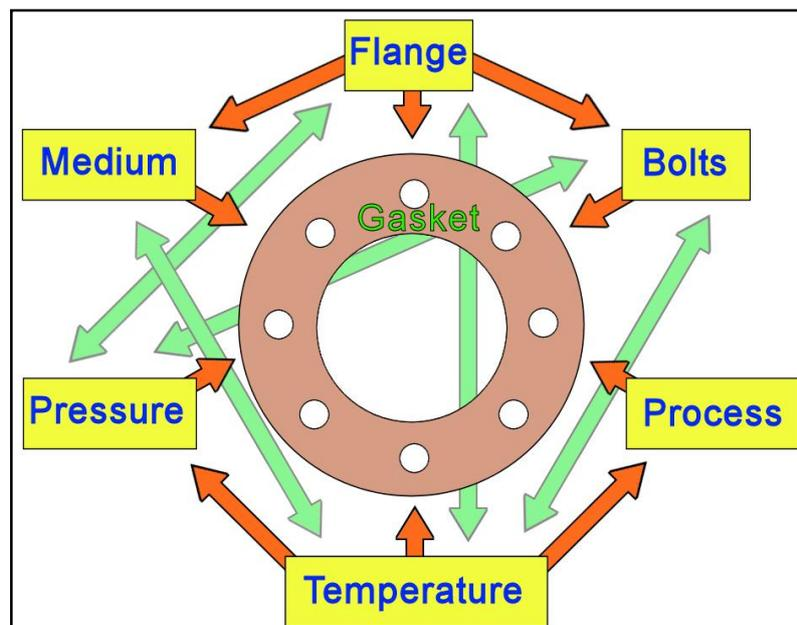

Figure 1
1. A bolted flange connection is a complex combination of many factors. All these various elements are interrelated and depend upon one another to achieve a successful result. Figure 1 shows the complexity of these relationships.